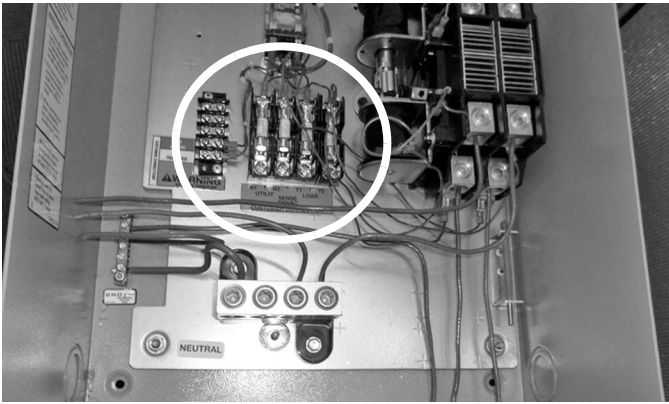

Figure 2-10.
22. Connect control wires (N1, N2, 23, 194, T1 & T2) to the fuse block and connection strip (Figure 2-10).